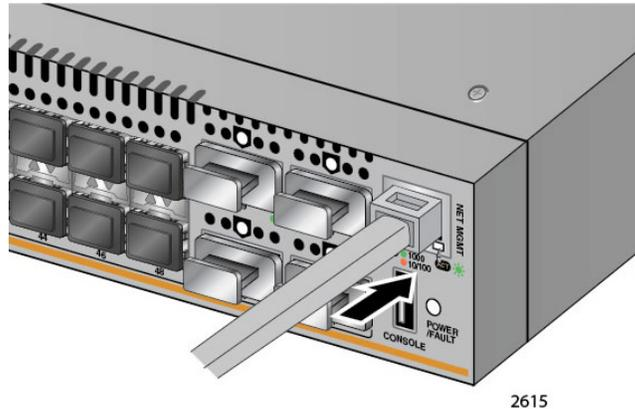

Figure 38. Connecting the Twisted Pair Cable into the NET MGMT port
2. Place the locking tab on the bottom and insert the twisted-pair cable into the NET MGMT port. See Figure 38 on page 73. The connector should click into place when it is fully seated.